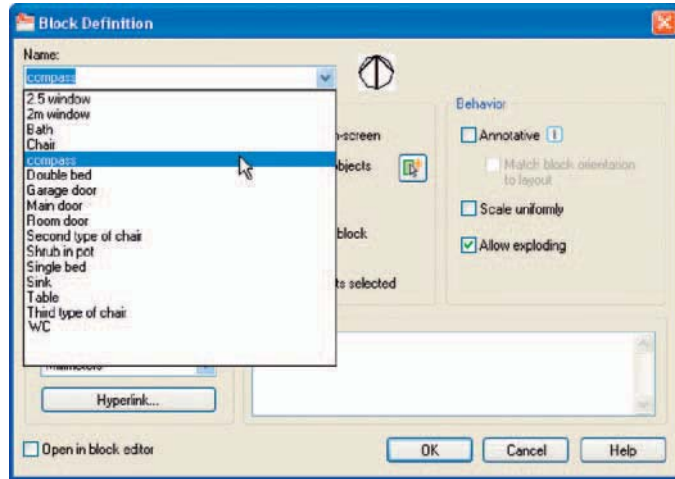

Fig. 9.4 The pop-up list in the **Name** field of the **Block Definition** dialog showing all blocks saved in the drawing
4. Open the **Block Definition** dialog again and *click* the arrow on the right of the **Name** field. Blocks saved in the drawing are listed (Fig. 9.4).